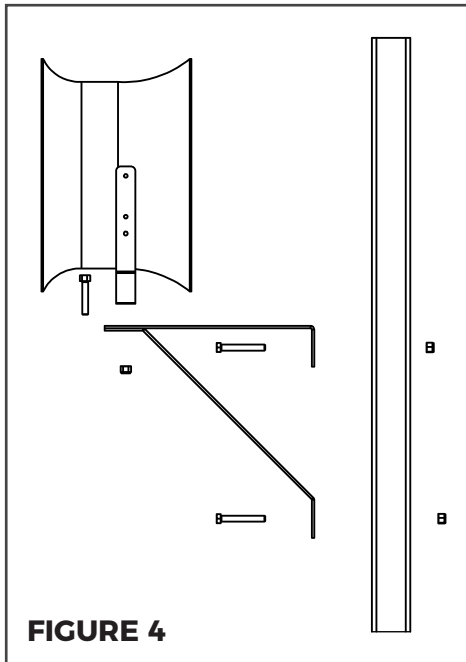

FIGURE 4
6. Secure the fan mount to the pole as shown in Figure 4. If using a column-wall mount, make sure the flat side of the column-wall is on top.